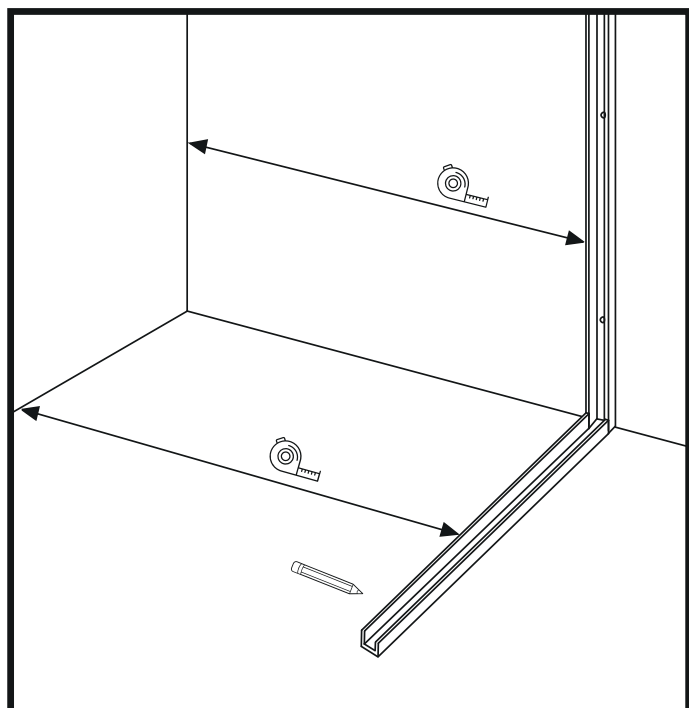

Figure 1
1. Select the distance of the U-profile from the wall according to your wishes, based on the working width of the telescopic tube. (Figure 1)